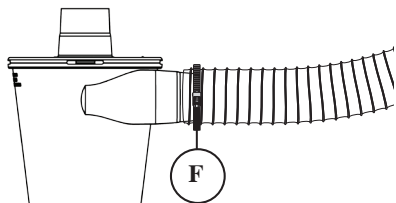

FIG. 5b
*Note: If your vacuum hose is not tight on the inlet or it keeps pulling off use the Clamp Band (F) and/or the two O-Rings (G) [FIG. 5b] [FIG. c].*